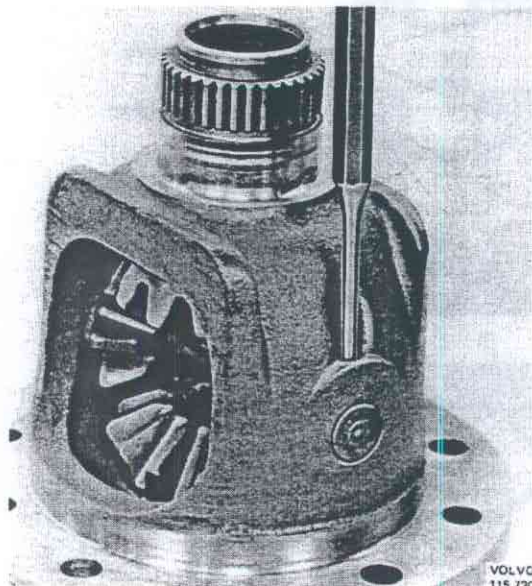

Fig. 46-47. Driving out the lock pin
2. Drive out the lock pin, Fig. 46-47, which holds the shaft for the differential gears.